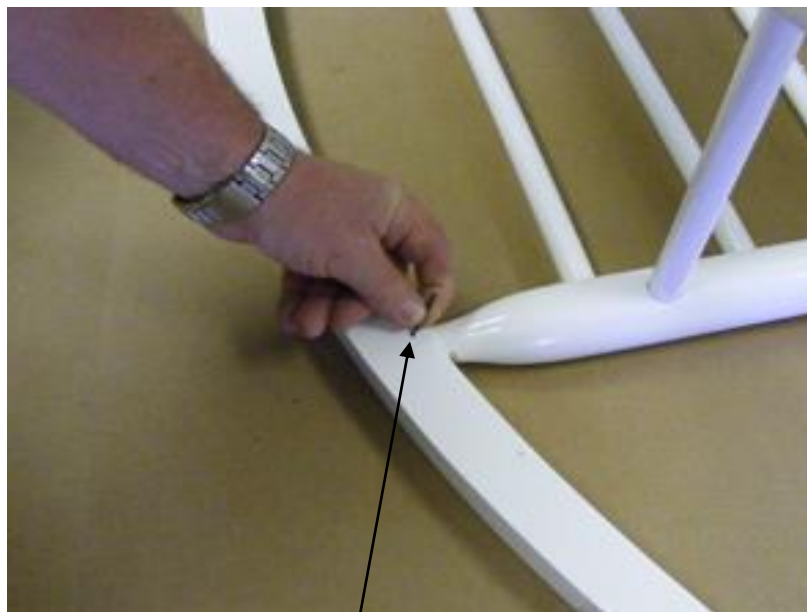

**FIG. 7**                      **D**
Place Runner (D) onto the tenons at the bottom of the Chair Side. Once the Runner (D) is started onto the tenons gently tap the bottom of the runner until fully seated onto the tenon. Ensure that the pre-drilled holes face to the inside. Repeat for the other side. Figure 7.